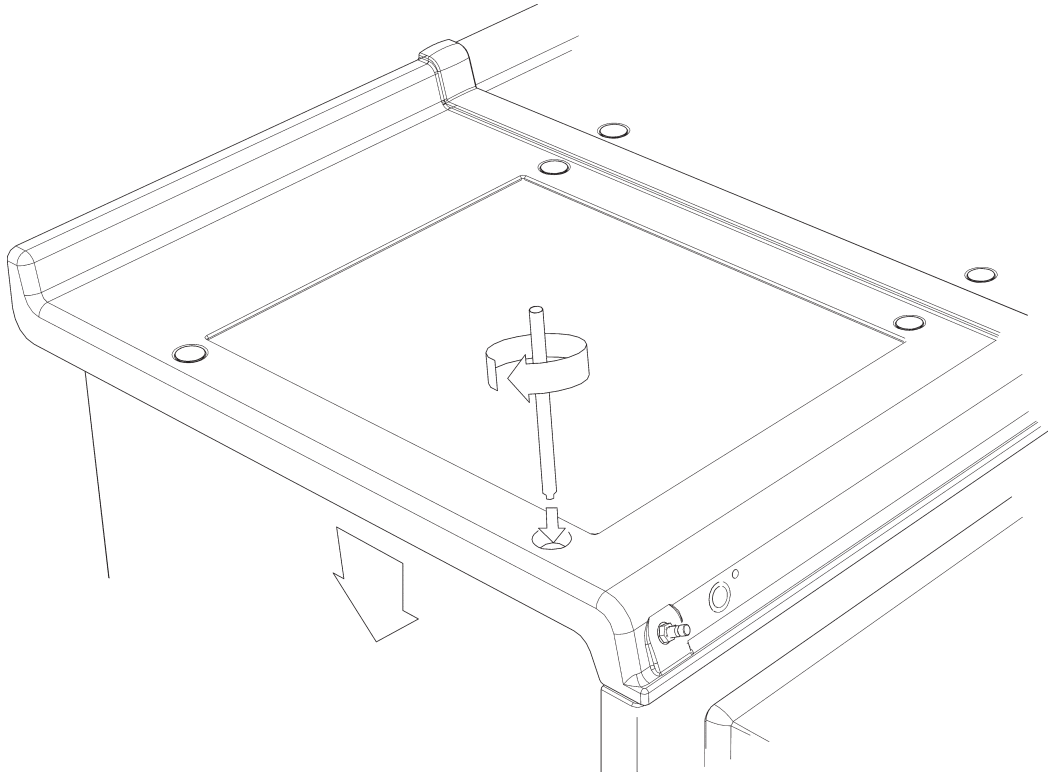

Fig. 19
8. Using the stay rod nut adjusting tool, carefully lower the top plate adjusting nuts until the top plate sits at the required height, making sure that the top sits level and matches the height of the AGA DC3. (See Fig. 19).